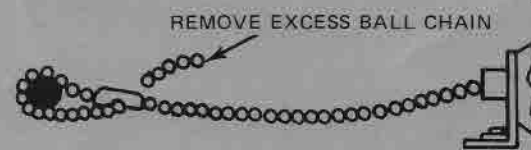

FIG. 1 COARSE RPM ADJUSTMENT
1. Mount the throttle actuator ① with the left bolt which secures the throttle bracket to the intake manifold.
2. Mount the vacuum valve ② to the side of the throttle bracket using the prepunched holes in the side of the bracket and the two 10 x 32 x 1/2" screws ③ supplied in the #1 packet.
3. Cut main vacuum source hose and insert vacuum tee ④.
4. Connect the vacuum hoses ⑤ as shown to the vacuum valve. (If the hose connections are reversed, the unit will not operate properly.)
5. Pop the throttle cable off of the ball stud at the carburetor and make the coarse speed adjustment ⑥ as shown in FIG.1. Adjust so the chain has approximately 1/4" to 3/8" of slack when the choke is off and the throttle is completely closed. Now put the loop of the ball chain ⑦ over the stud and reconnect the throttle cable.